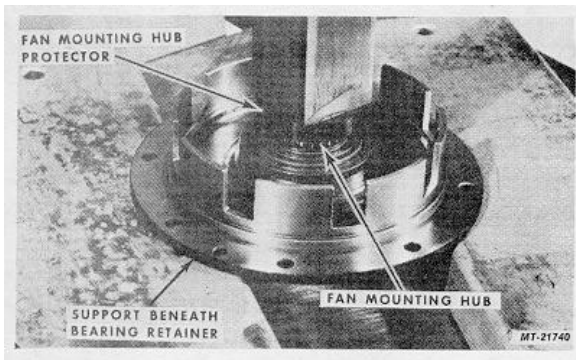

Fig. 48
11. Support beneath Bearing Retainer and use Fan Mounting Hub Protector SE-2782-3 to press Fan Mounting Hub down until Bearing Assembly is seated against the Spacer Ring and External Snapping, Fig. 48. Fan Mounting Hub will move only 1/16".